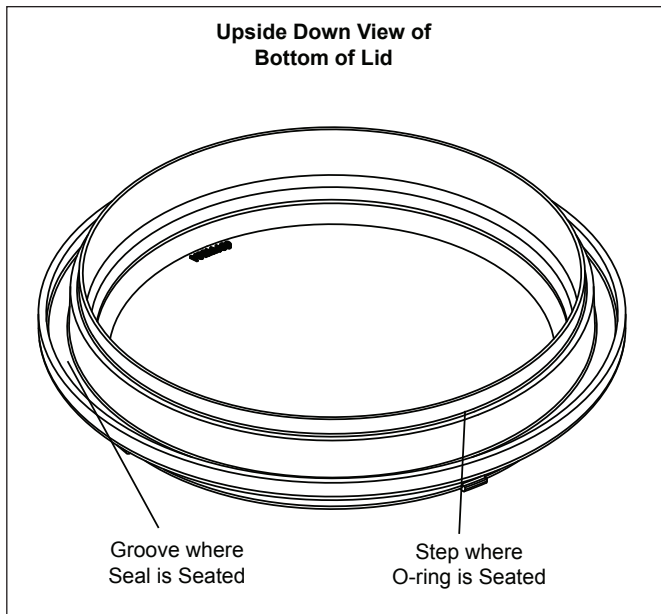

Figure 8. Placement of Blue Pressure Test O-ring
2. Place the blue o-ring on the step located $\frac{1}{4}$ " from the bottom of the lid. See Figure 8.
NOTE The blue o-ring sits approximately $\frac{1}{4}$ " away from the seal. See Figure 8.